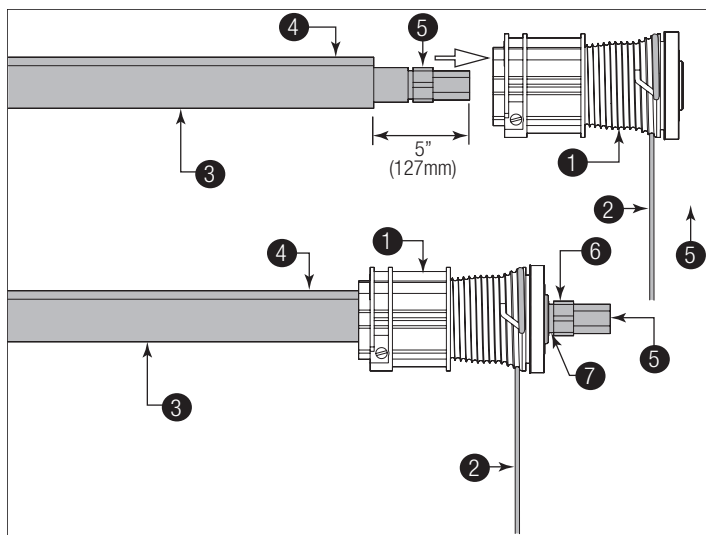
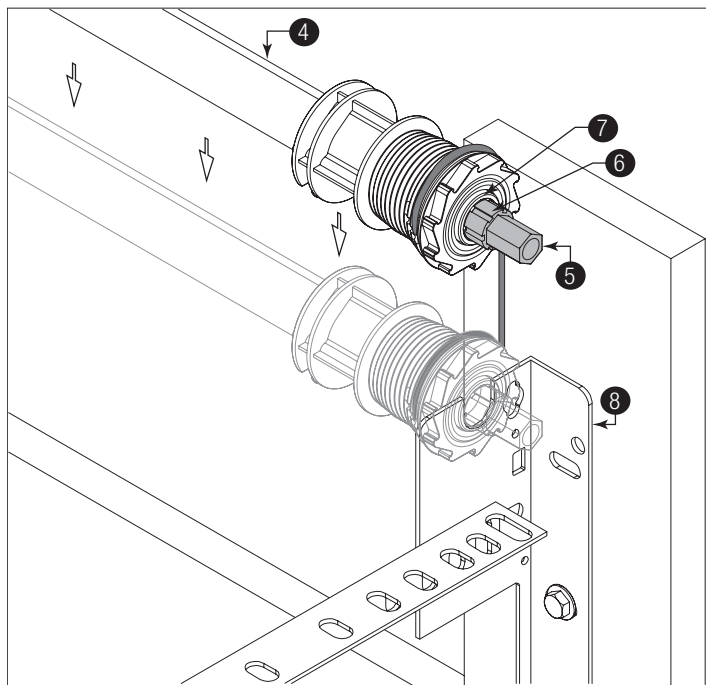

Figure 36, Right Side Shown
Figure 37, Right Side Shown
See Figure 36 and Figure 37 for the following steps.
**NOTE:** If ratchet wheel falls out of end bracket, refer to Figure 37 for proper insertion orientation.